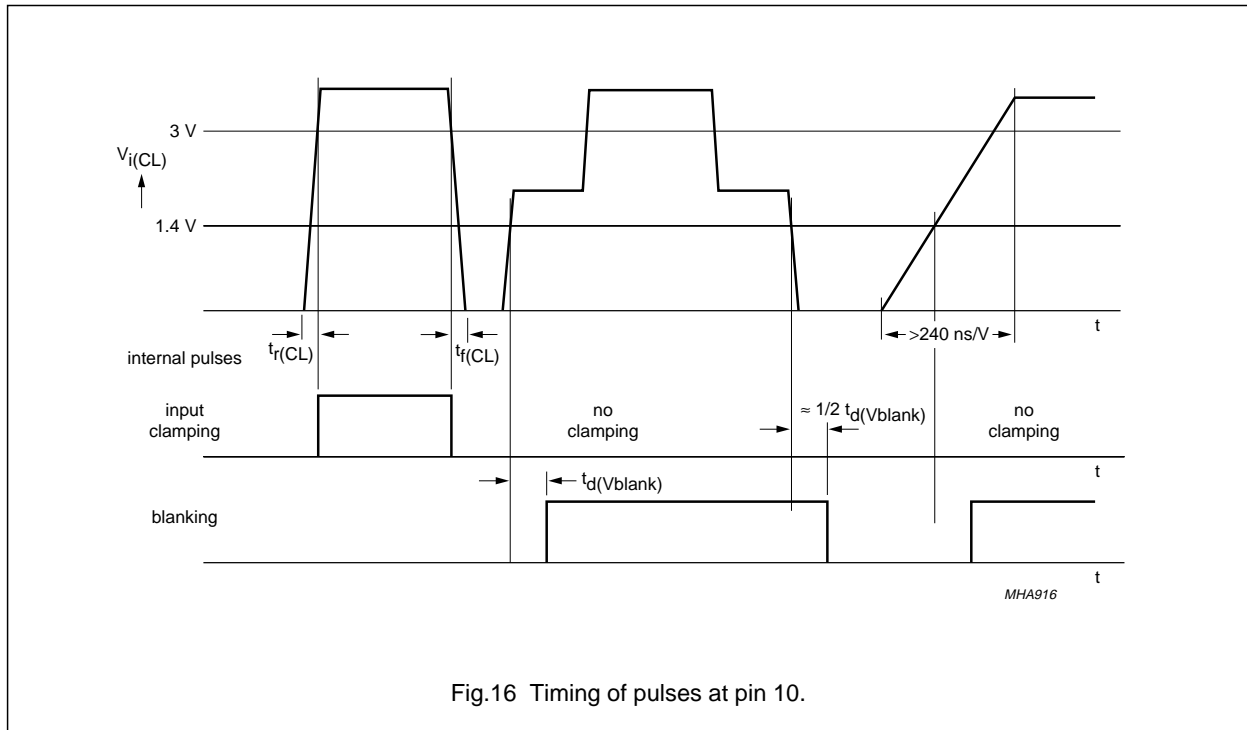

Fig.16 Timing of pulses at pin 10.
17. For  $75 \text{ ns/V} < t_{r(CL)}, t_{f(CL)} < 240 \text{ ns/V}$ , generation of internal input clamping and blanking pulse is not defined. Pulses not exceeding the threshold of input clamping (typical 3 V) will be detected as blanking pulse. Timing of pulses at pin 10 see Fig.16.